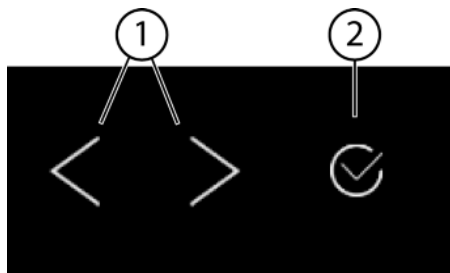
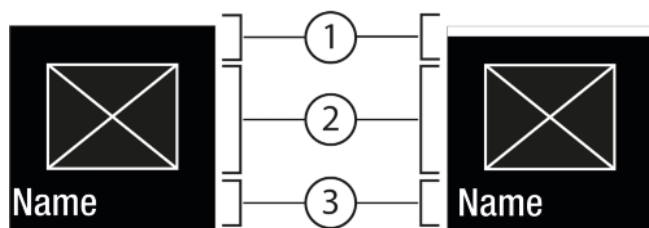
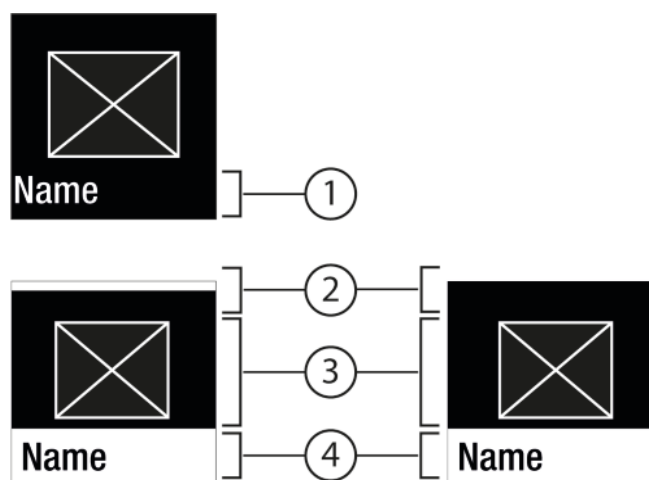

Fig. 5
Fig. 6
Fig. 7
(1) Left/right navigation arrow
(2) Confirm
**Left/right navigation arrow Fig. 5 (1):**
**Confirm Fig. 5 (2):**
- Navigate with the left/right navigation arrow *Fig. 5 (1)*.
- Press Confirm *Fig. 5 (2)* to activate *Fig. 6 (1)* / deactivate *Fig. 6 (1)* the function/setting.
- Press Confirm *Fig. 5 (2)* to go to the submenu *Fig. 7 (4)*.
- Set new level: Press Confirm *Fig. 5 (2)* to select a deselected value *Fig. 6 (1)*.
- Back to menu: Press Confirm *Fig. 5 (2)* to select the selected value *Fig. 6 (2)*.
- ▶ Press the navigation arrows *Fig. 5 (1)* until appears.
- ▶ Press Confirm *Fig. 5 (2)*.
- ▶ Press the navigation arrows *Fig. 5 (1)* until the function appears.
- ▶ Use the navigation arrows *Fig. 5 (1)* to select the setting value.
- ▶ Press *Fig. 5 (2)* confirm.
- ▷ Status: on *Fig. 6 (1)* appears briefly in the submenu *Fig. 7 (4)*.
- ▶ Press the navigation arrows *Fig. 5 (1)* until Settings  appears.
- ▶ Press the navigation arrows *Fig. 5 (1)* until you can see the setting you want.
- ▶ Press Confirm *Fig. 5 (2)* for 3 seconds.